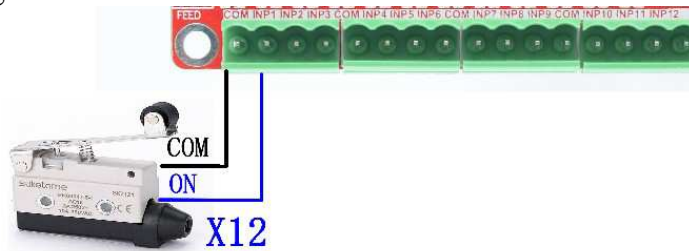

Figure2-2. normal Tact limit switch connection
B) 5V General INPUT PORT, IN1-12, see as Figure 2-2, it is defined as COM, IN1, IN2, IN3, COM, IN4, IN5, IN6, COM, IN7, IN8, IN9, COM, IN10, IN11, IN12 from left to right, The interface uses opto-isolated, using common positive input, COM is used as the common Port. Wiring methods see as Figure 2-2.